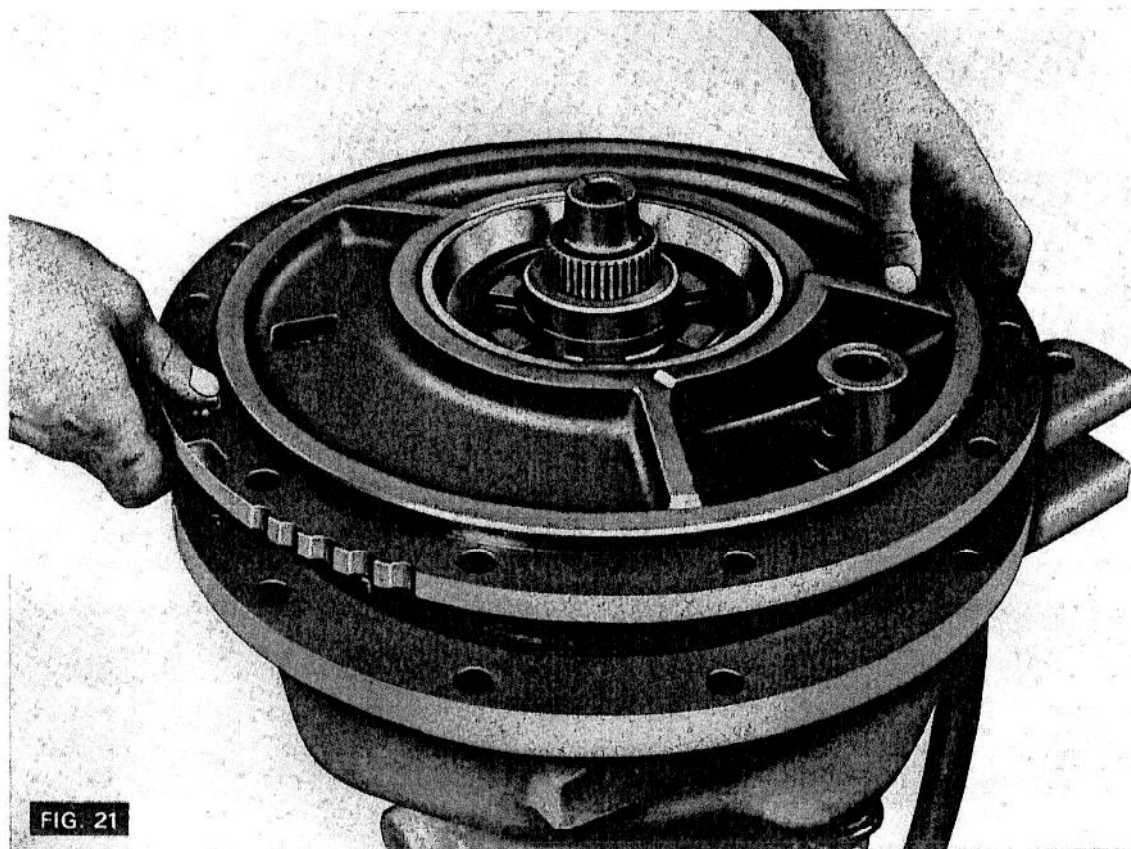

FIG. 21
4. (Fig. 21) Lift off the carrier plate complete with bearing cup, differential shifter fork and coupler.